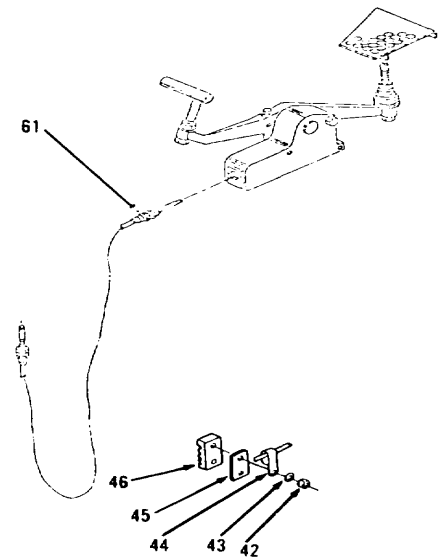

Figure 3-174.
42. Position cable (61) in lower slot of backing clamp (46, Figure 3-174) on right and left sides of articulation area.
43. Install one of two clamps (46), plates (45), two clips (44), washers (43) and nuts (42) loosely. Secure hoses to clips (44). Do not tighten nuts (42) at this time.
44. Position cable (61) through lower articulation area to left side of vehicle. Position cable (61) in lower slot of clamp (46).
45. Install one of two clamps (46), plates (45), clips (44), two washers (43) and nuts (42) loosely. Secure hose to clips (44). Do not tighten two nuts (42) at this time.
46. Position cable (61) from articulation area up to right side of engine compartment.